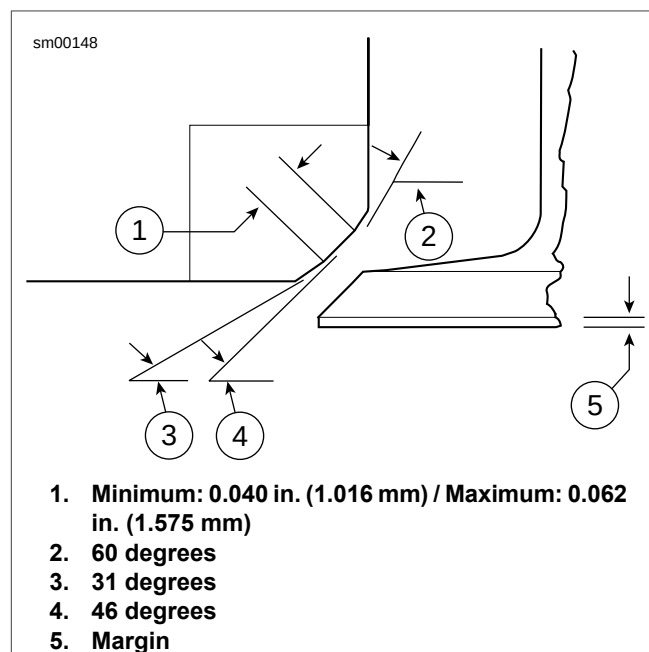

Figure 3-51. Valve and Seat Dimensions
- Replace the valve if margin is less than 0.0313 in (0.795 mm). See Figure 3-51.